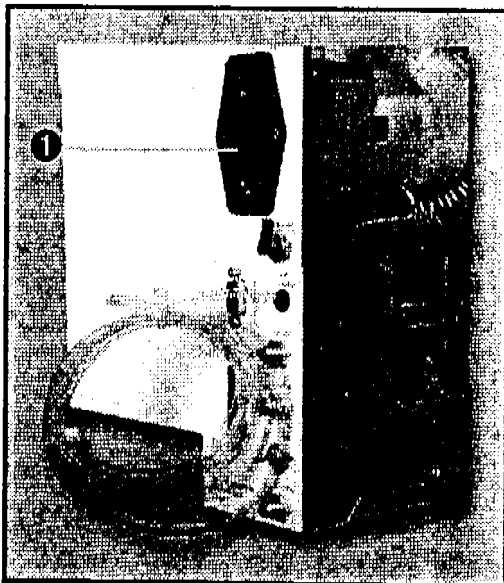

Figure 4.4.1
1. Insert a small slotted screwdriver up and through the bottom opening (❶, Figure 4.4.1) of the power entry module (this was exposed when the power cord was removed).